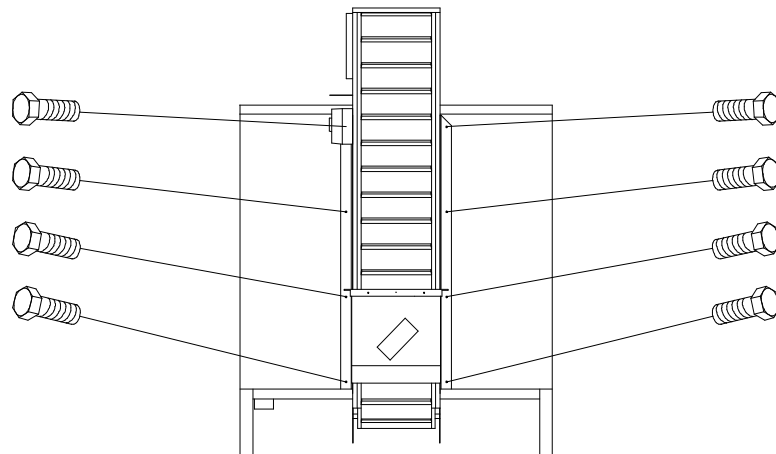

Figure 8: Fastening the elevator
- II. Fasten the elevator to the ball dispenser, the hopper or the ditch with the screws delivered with the machine. See Figure 8: .
III. Fasten the elevator to the ball dispenser by the bolt joint for the “Holder sheet” delivered with the machine. See Figure 8: .